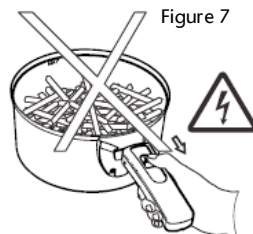

Figure 7
CAUTION: Do not press the Basket Fold-Down Switch (4) while holding the Basket (13). (See Figure 7)